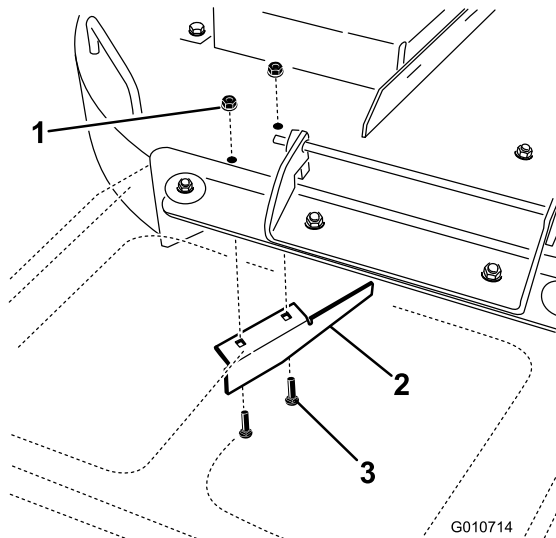

Figure 7
5. Locate the cut off baffle at the side discharge opening on the 54 inch mower deck (Figure 7).